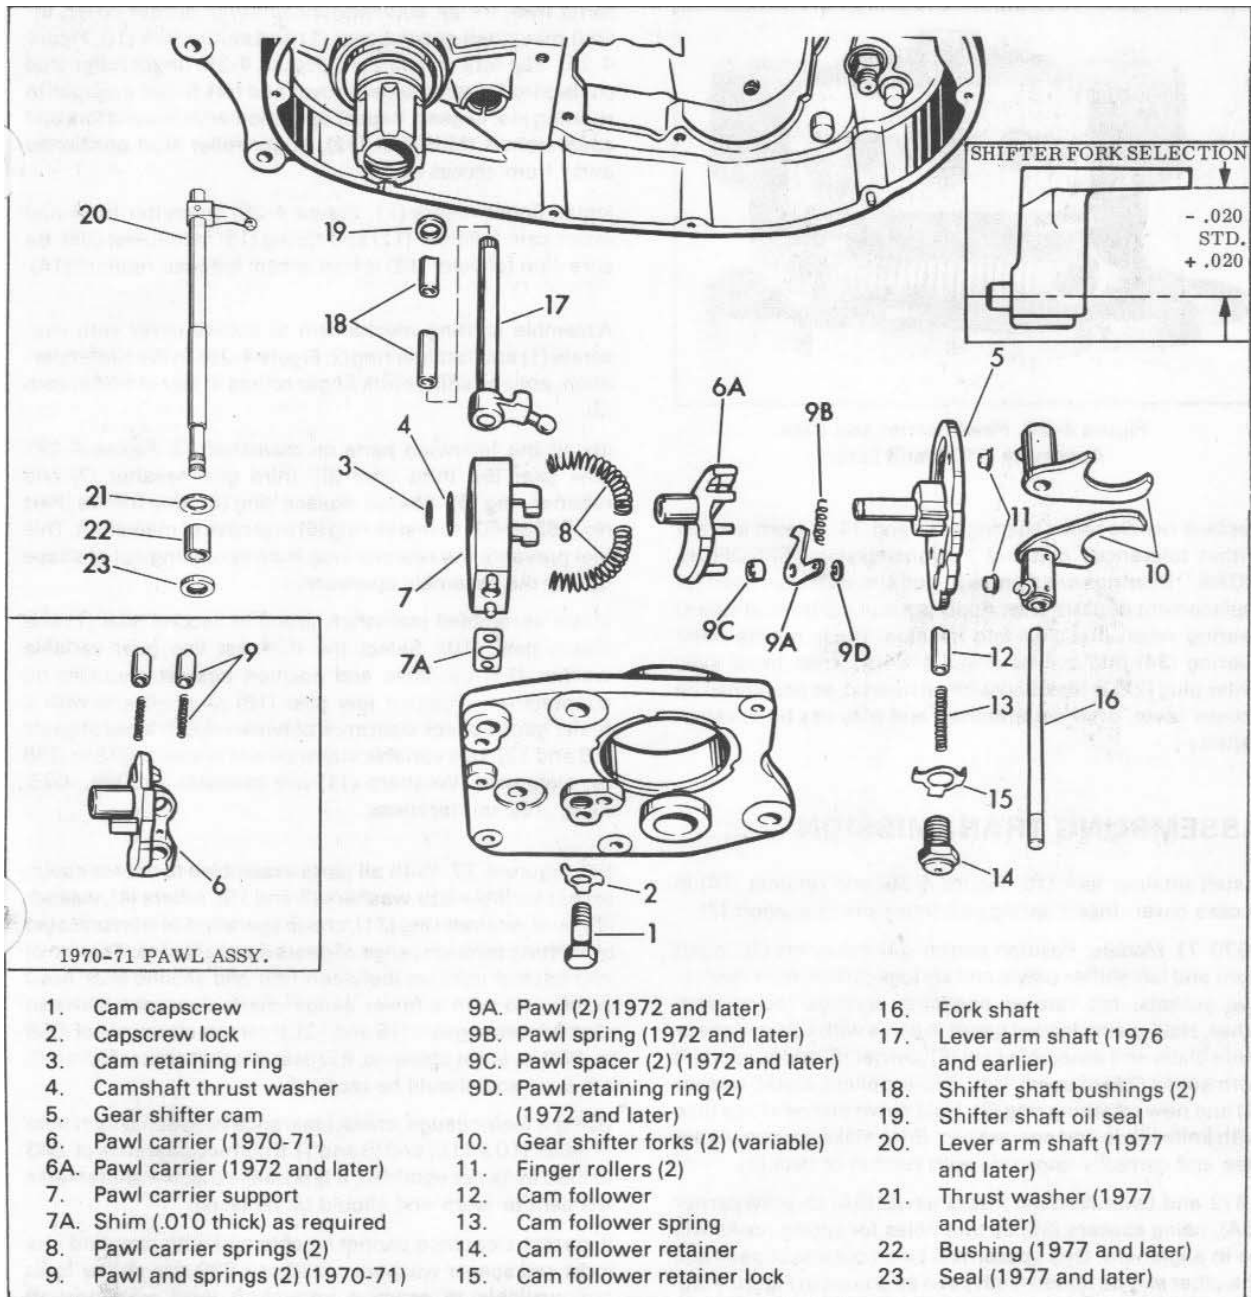

Figure 4-25. Shifting Mechanism - Exploded View
#### SHIFTER MECHANISM (Figure 4-25)
To free shifter mechanism from access cover, remove mainshaft second gear (1, Figure 4-27), capscrew (1, Figure 4-25) and lock (2). With a Tru-arc Pliers remove retaining ring (3) and washer (4). Free cam (5), pawl carrier (6 or 6A), pawl carrier support (7) and pawl carrier support shims (7A) (if used). Remove pawl carrier springs (8) from pawl carrier support. On 1970-71 models, remove shifter pawls and springs (9). To disassemble 1972 and later pawl assembly remove retaining rings (9D) to free pawls, spacers and springs (9A, 9B and 9C) from pawl carrier (6A). To free shifter forks (10) and finger rollers (11), remove fork shaft (16) from access cover. Mark fork so they can be reassembled in the same position.
Install retainer lock (15, Figure 4-25) and retainer (14) in access cover. Insert springs (8) into slots of support (7).
turns free. Install countershaft group in access cover. Install mainshaft second gear (1) and shifter fork (10, Figure 4-25). Slip fork on shaft (16, Figure 4-25) finger roller stud positioned towards access cover and fork finger engaged in running slot of gear. Repeat operation with second fork and countershaft third gear (12), finger roller stud positioned away from access cover.
Install finger rollers (11, Figure 4-25) on shifter forks and insert cam follower (12) and spring (13) in follower (14). Be sure cam follower (12) is free in cam follower retainer (14).
Assemble shifting mechanism to access cover with cap-screw (1) and retainer ring (2, Figure 4-25). In the same operation, engage shifter fork finger rollers in slot of shifter cam (5).
Shims (7A, Figure 4-25) should be employed to space both mainshaft 2nd and countershaft 3rd gears away from access cover if necessary.
With the transmission completely assembled (not in crankcase, however), hold on to shifter cam (5), Figure 4-25 so that cam follower (12) does not complete the shift. Then, shift the transmission into all four gears (upshift and downshift). In each case, check to see that the sliding gears go into their respective mating gears at least 50%, with 25% being the minimum allowable into low gear. If the sliding
With mainshaft and countershaft end play established, center the gear shifter lever arm shaft (17, Figure 4-25), so